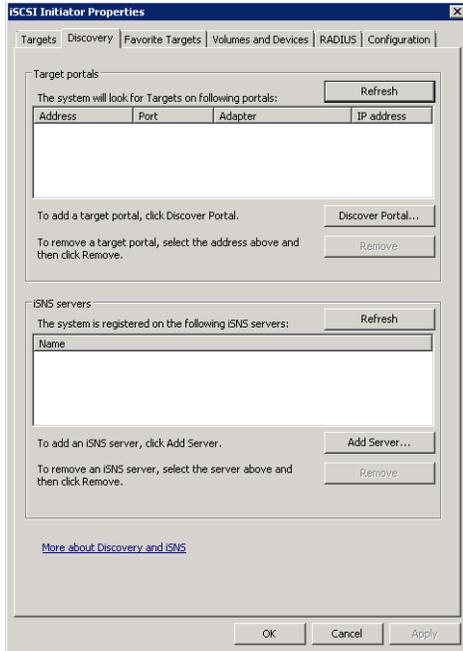

Figure 4-38 Adding iSCSI targets manually
- To discover the iSCSI target manually, adding the DS iSCSI controller IP addresses on the “Discovery” tab, click **Discovery** as shown in Figure 4-38.